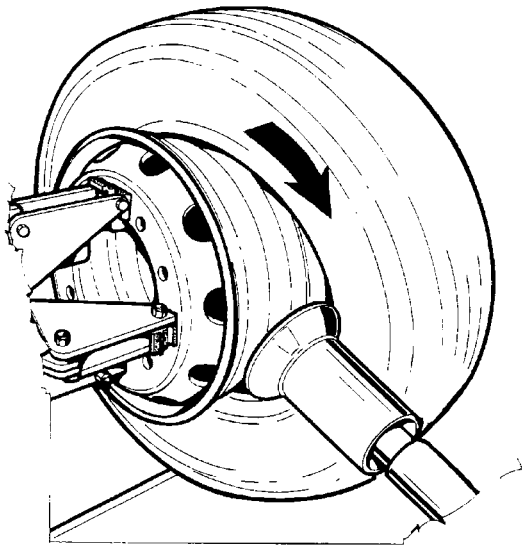

Fig.21
7. Continue rotating the chuck, moving tool holder carriage towards the outside until the beads are demounted from the rim (fig.21 and fig.22)